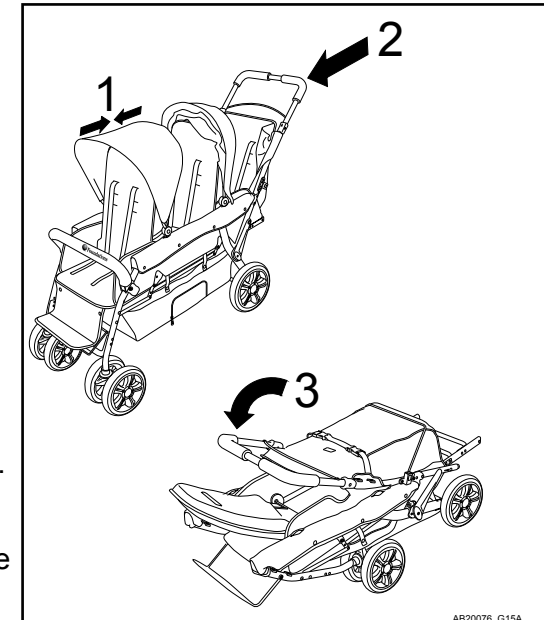

Figure 10
Note: Canopies should be folded together and seats in the upright position for easier folding operation (1). See Figure 10.